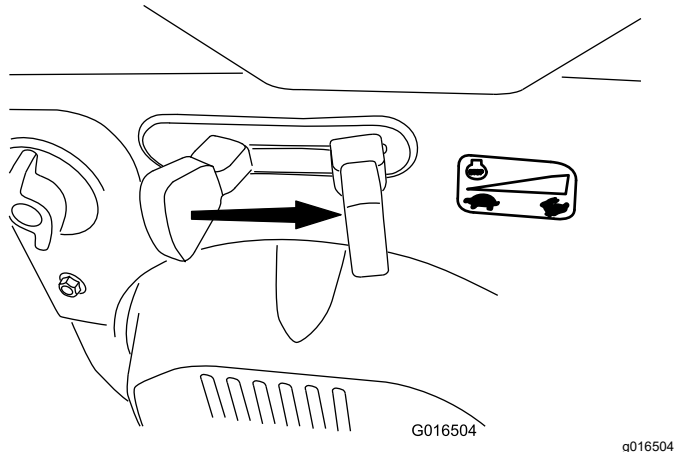

Figure 19
6. Move the throttle to the FAST position (Figure 19).